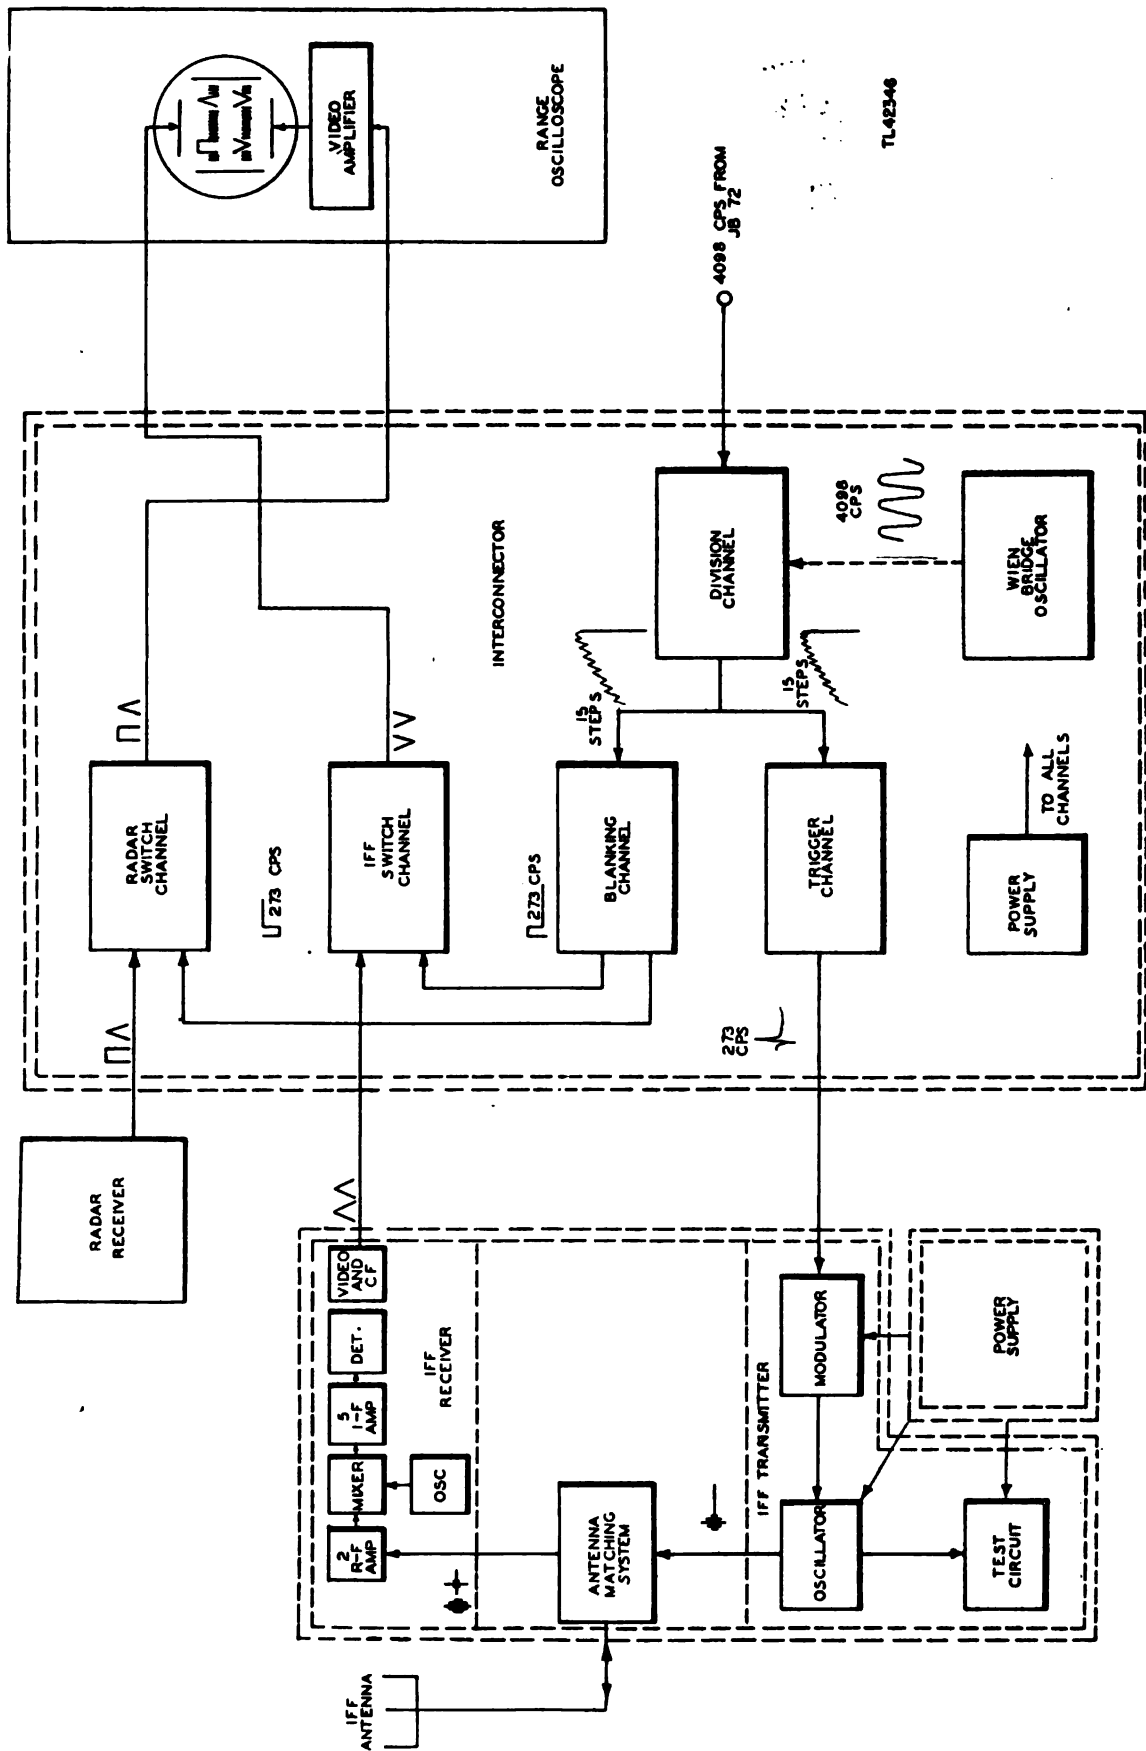

Figure 4. Radio Equipment RC-148-C, block diagram.
g. **BLOCK DIAGRAM.** A functional block diagram of the entire Radio Equipment RC-148 or RC-148-B is given in figure 3 and a functional block diagram of the RC-148-C is given in figure 4. These figures show in detail the interrelation of all the components of the equipment and serve as a master diagram for reference and review.
The transmitter consists of four sections: modulator section, r-f oscillator section, testing or monitor section, and power supply section. (See fig. 4.) This paragraph contains a general description of the main sections of the transmitter. Paragraphs 10 through 18 contain a detailed description of the transmitter circuits.